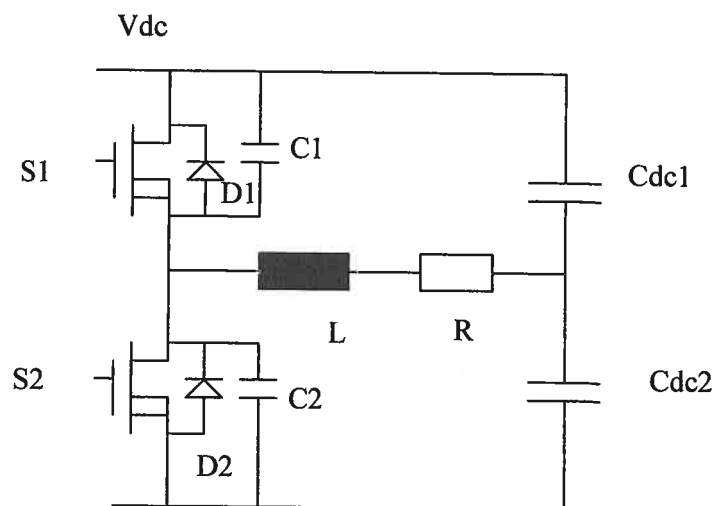

Fig.Q5
- (d) Fig.Q5 shows a half-bridge power inverter feeding an inductive load. With the aid of the circuit diagrams showing the current path, explain how soft-switching can be achieved in this circuit.